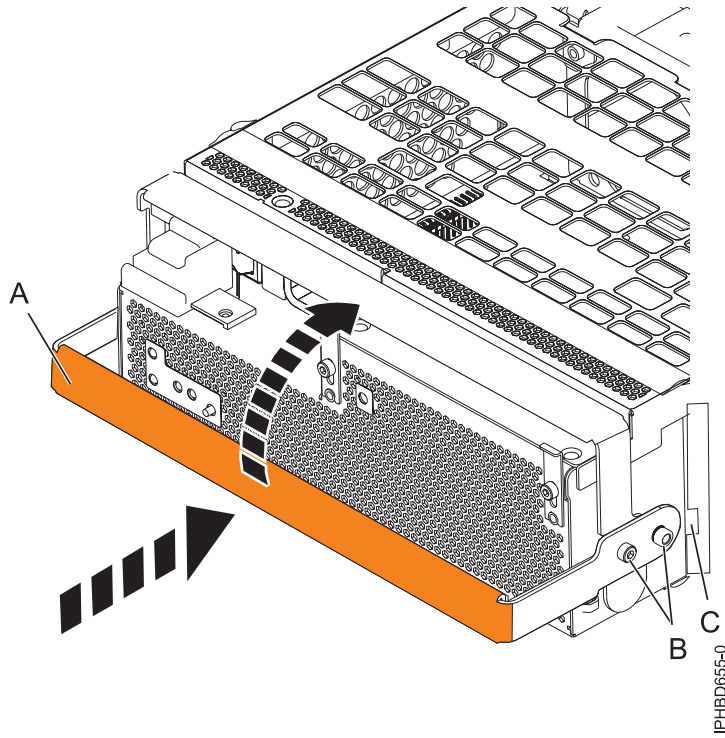

Figure 60. Replacing a power supply
10. To replace the power supply, with the locking handle (A) in the open position, push the power supply into the expansion unit as shown in Figure 60 on page 76.
11. Close the locking handle (A) until the power supply locks into position.